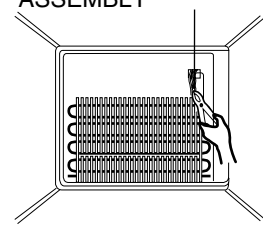

Figure 2
► Left Door -FIG. 2
2. Separate the connector with the Defrost Control assembly and replace the Defrost Control assembly after cutting the Tie Wrap. (Figure 2)